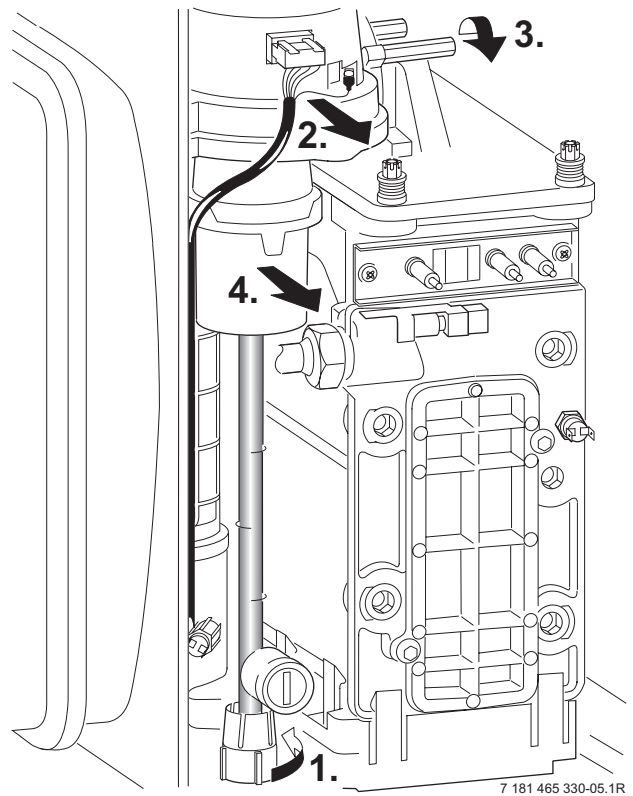

Fig. 61
- Undo lower pipe union on gas pipe (1.). Refer to fig. 61.
- Undo the union, within the inner casing, securing the valve to the gas/air tube. Refer to fig. 61.